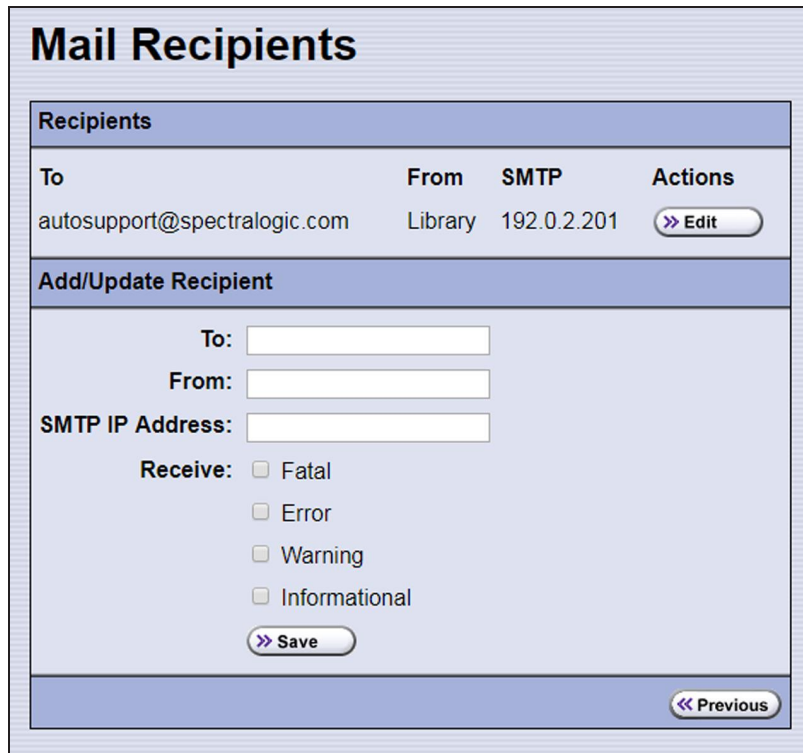

Figure 53 The Mail Recipients screen.
5. Click **Save**. The screen refreshes to show the new or updated mail recipient in the Recipients portion of the Mail Recipient screen (Figure 53 on page 128).